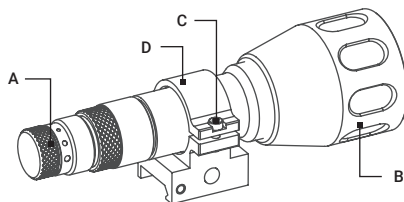

FIGURE 2-8. OPERATING THE SIOUX850
2. To change the radiated power level, turn the power switch (A, Figure 2-8) to one of the spots between the two OFF positions.
3. To adjust IR beam divergence, turn the lens focus ring (B).
4. To adjust the IR spot position in the field of view, loosen two clamp screws (C) and tilt the Sioux850 as required in the spherical clamp hinge (D). Tighten the screw using a 2.5mm hex key.